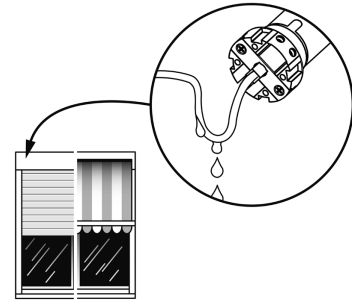

Fig. 1
- The connection cable should be installed in an conduit to the junction box, in compliance with the local building and electrical regulations. Avoid any contact between moving objects and connection cables by routing the cables according to figure 1.
- The motor needs the following complete movement (figure 1) to memorize the limit position. (Hold down the button ▼ to move the motor in the requested direction). The motor will give a feedback (short up/down movement) to confirm that the installation procedure has ended.